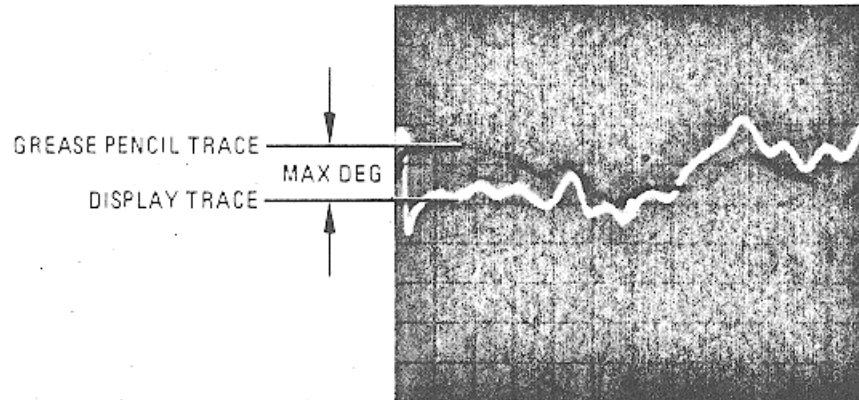

Figure 11. Reflection Frequency Response Phase
- (5) On 8505A Signal Processor Channel 2 press the REF OFFSET pushbuttons to center the display around the grease pencil trace.
- (6) Measure the maximum difference between the grease pencil trace and the display trace (Figure 11). This measured value should be  $\leq 15^\circ$  for the entire 0.5 to 1300 MHz frequency range.
- (1) Repeat steps h (1) through h (5).
- (2) Measure the maximum difference between the grease pencil trace and the display trace (Figure 11 ). This measured value should be  $\leq 10^\circ$  for the 2 to 1300 MHz frequency range.
- (3) Remove grease pencil trace from CRT.